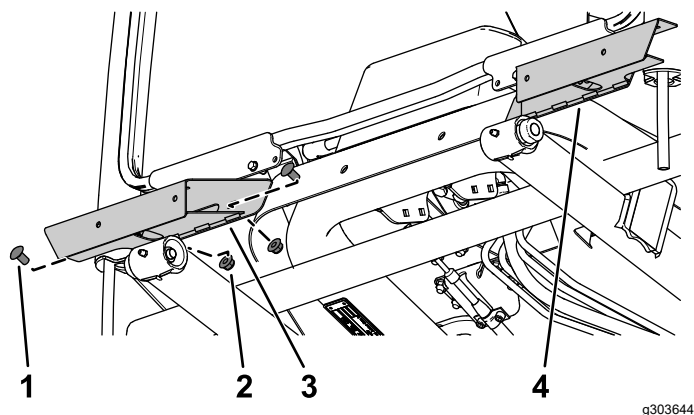

Figure 14
1. Secure the left light base and right light base to the cab frame using 2 carriage bolts (3/8 x 3/4 inch) and 2 locknuts (3/8 inch) on each side (Figure 14).